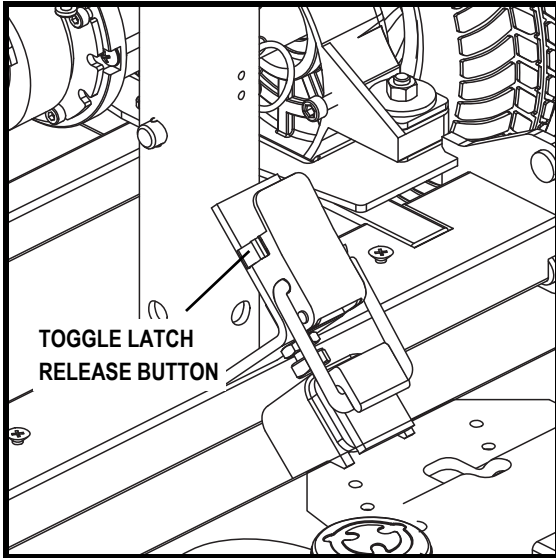

Figure 11. Toggle Latch Closed
6. Push in the toggle latch release button while pulling forward on the toggle latch. See **figure 11**.
4. Secure the toggle latch to the locked position. See figure 11.